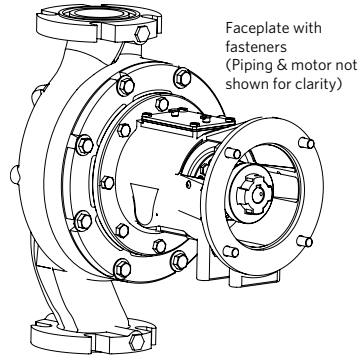

FIG 7A. SBA 6 series with Face plate
- 12 Follow the remaining steps as applicable from #1 thru #11 to change 6 series sba (**FIG 7A**).